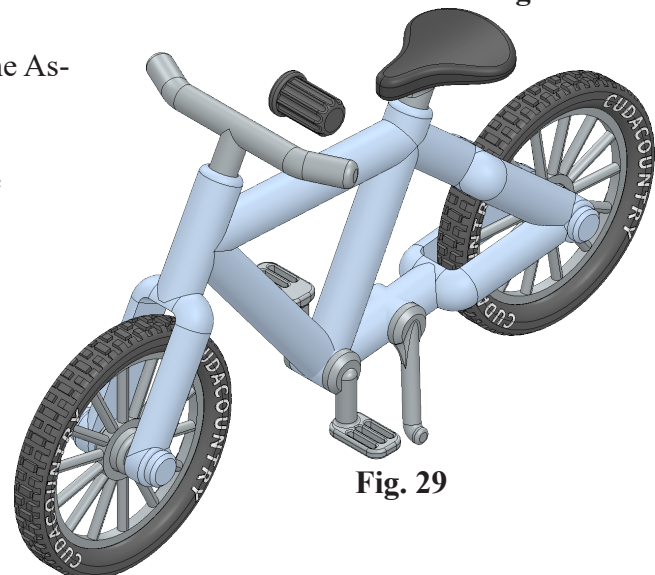

Fig. 29
Step 5. Click to place Grip, **Fig. 29**.